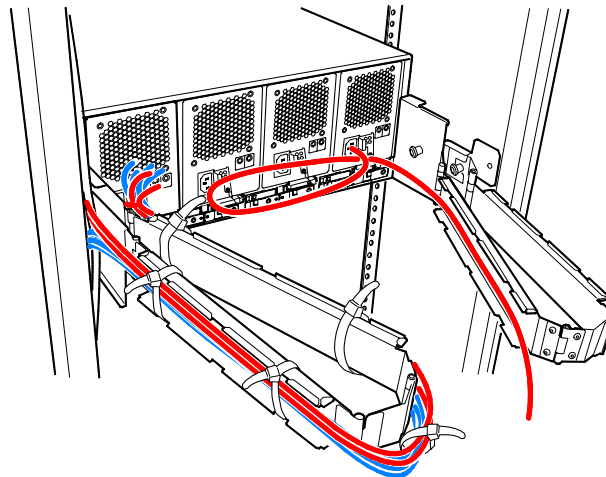

Figure 2.5.40 Routing of the Power Cable #A1
- (b) Route the power cable #A1 as shown in Figure 2.5.40.